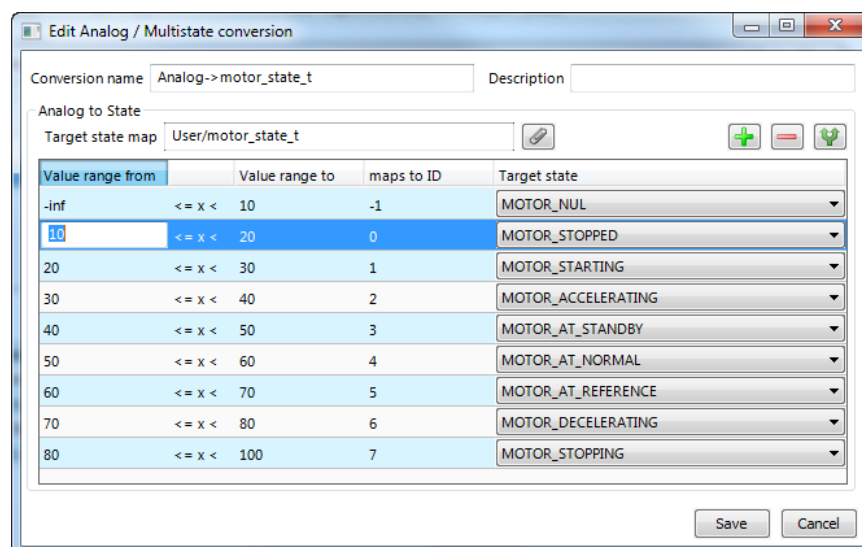

Figure 176: Edit an analog to multi-state conversion.
12. An example for editing an analog to multi-state value conversion is shown in Figure 176. Enter a **Conversion name**, then edit the **Value range from** column and select the desired **Target state** mapping.